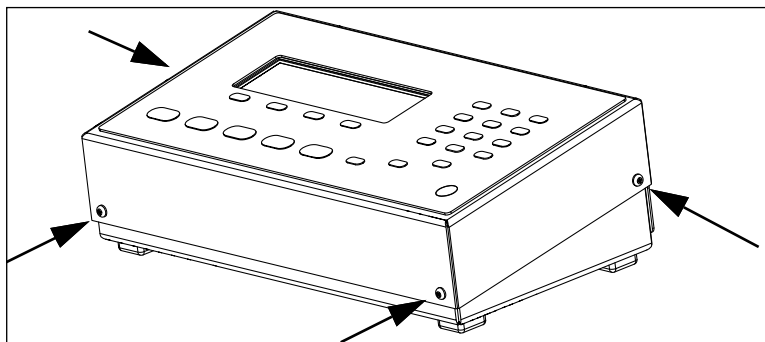

Figure 8-2. Counterpart Cover Mounting Screws
6. Reinstall Cover with four screws previously removed (Figure 8-2 on page 89).